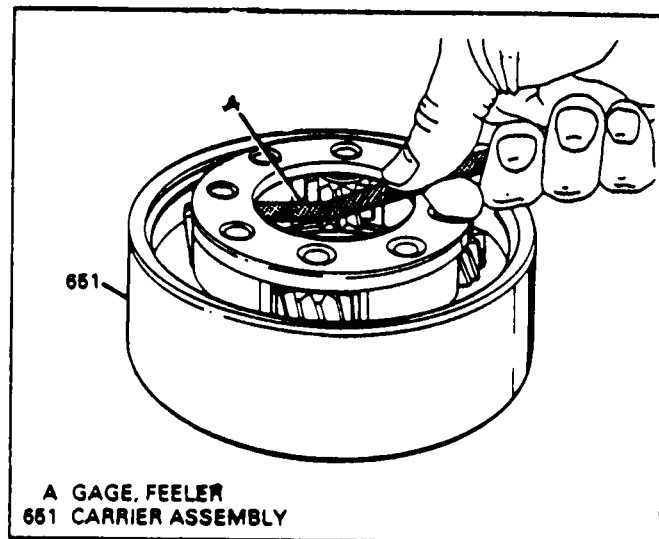

Figure 61
3. Check both planetary carriers for excessive pinion end play, using feeler gage, as shown in Figures 61 and 63.